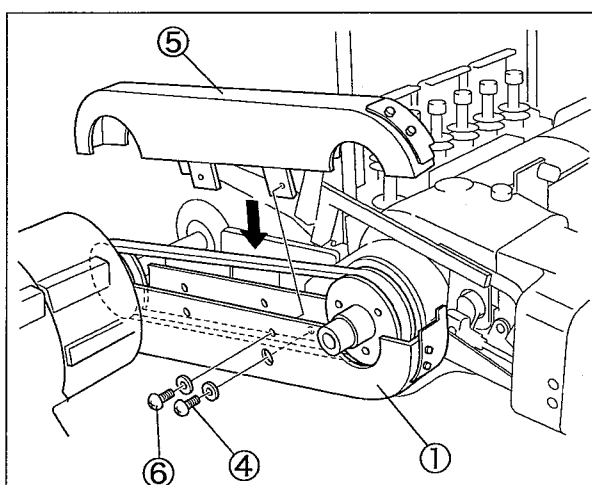
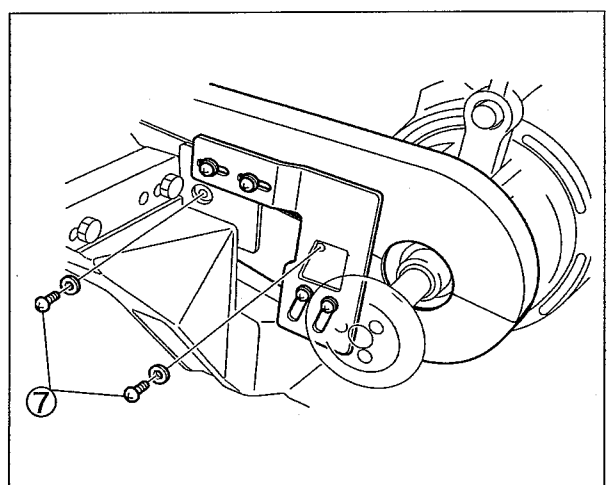

Fig.2-28
Fig.2-29
- (2) Fix the belt cover(lower) ① on the sewing machine supporting block with the screw ④. (Fig. 2-28)
- (3) Set the belt cover(upper) ⑤ on the belt cover(lower) ① with four screws ⑥⑦. (Fig. 2-28 and Fig. 2-29)